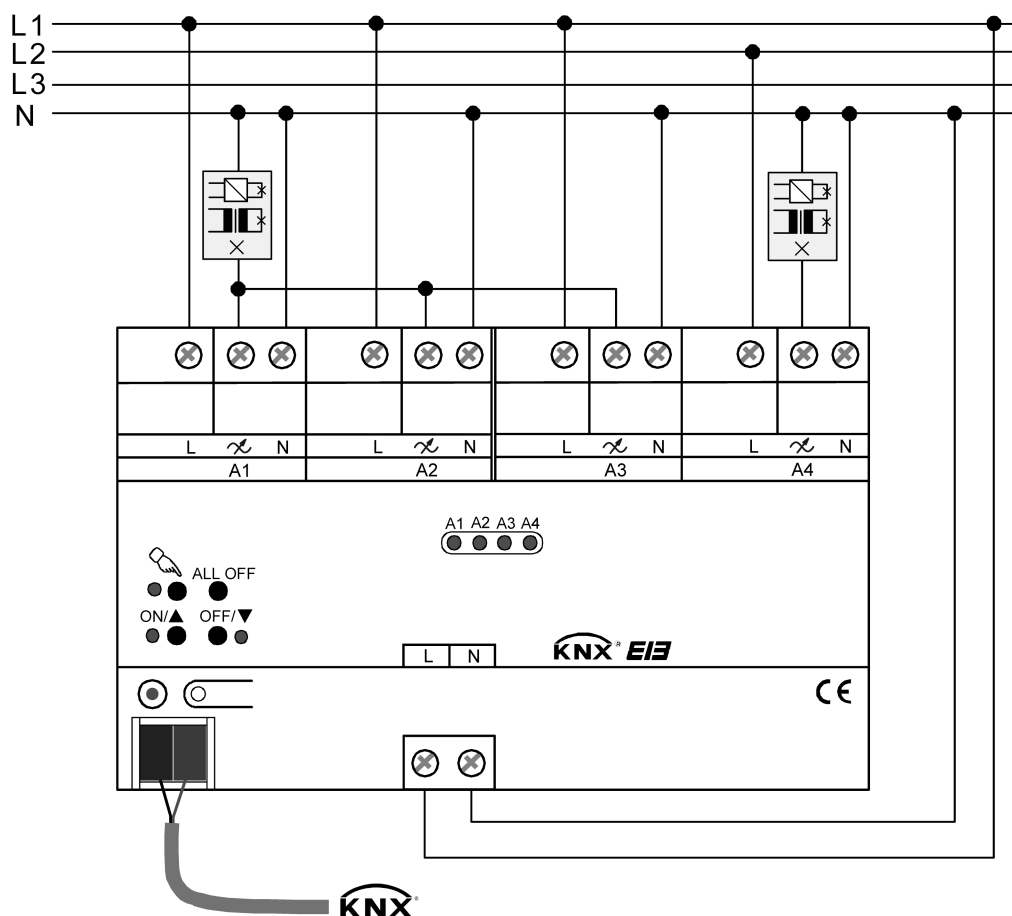

Figure 5: Electrical connection for parallel wiring of outputs (example)
- Wire the corresponding outputs in parallel according to connection diagram (figure 5).